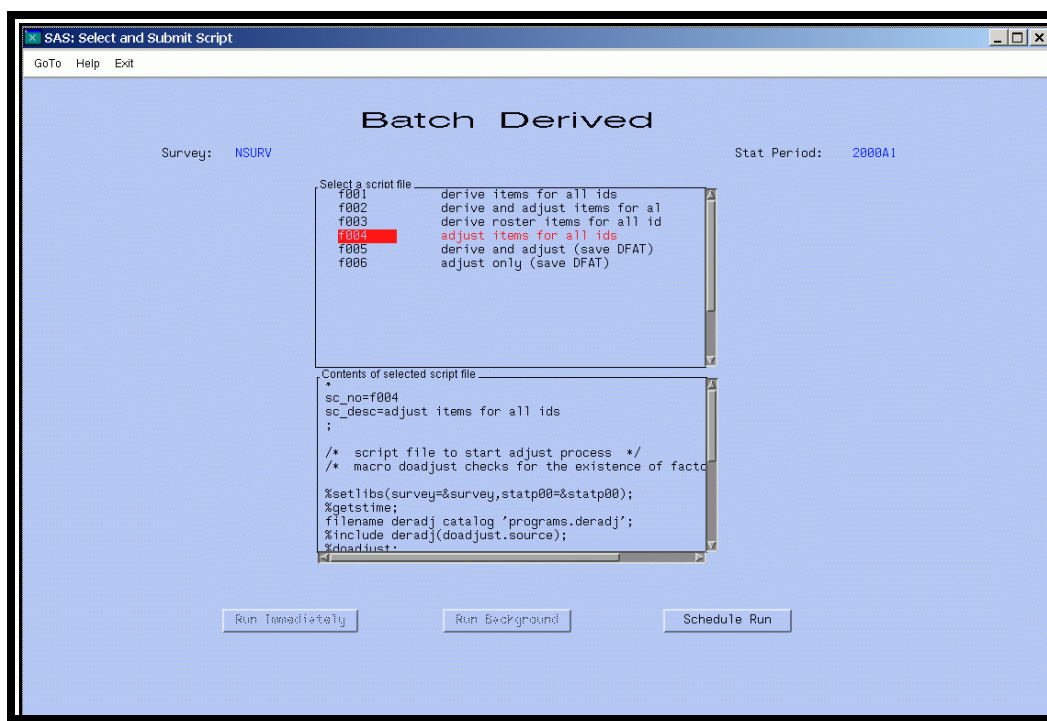

Figure 13.2.2 Run adjust screen with script selected
- After you select a script file, the contents of the script file selected will display in the bottom box (Figure 13.2.2).